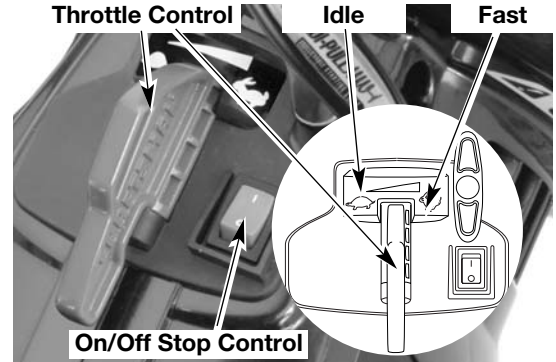
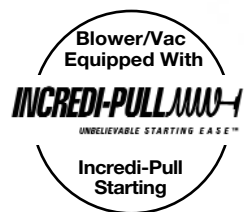
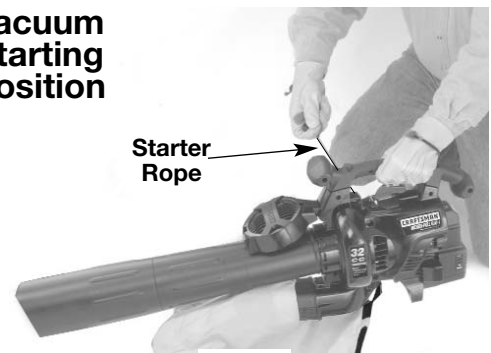

Fig. 9
Fig. 11
Fig. 12
**WARNING:** Avoid accidental starting. Make sure you are in the starting position when pulling the starter rope (Fig. 11 and 12). To avoid serious injury, the operator and unit must be in a stable position while starting. Do not set unit on any surface except a clean, hard area while starting. Debris such as gravel, sand, dust and grass could be picked up by the air intake and thrown out by the discharge opening. This could damage the unit, property, or cause serious injury to bystanders or the operator.
4. Place the unit in the starting position (Fig. 11) as a blower, Fig. 12 as a vacuum). **Move the throttle control to the idle position** (🐷) (Fig. 9). This is especially important during cold starting.